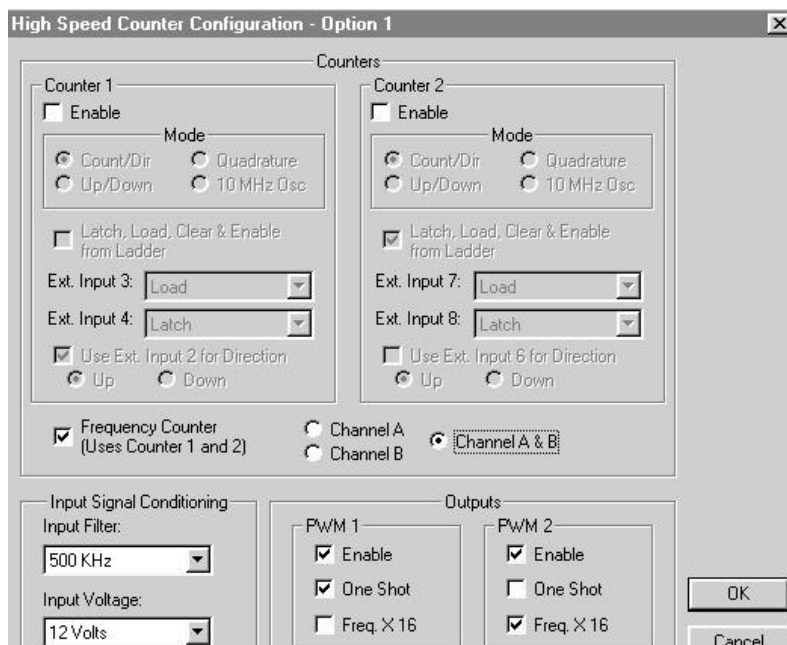

Figure 3.5 – Frequency Input Counter Selected and Pulse Width Modulators (PWM) Enabled
2. Select the channel(s) needing frequency measurement. The frequency can be measured for Channel A or Channel B by clicking the circle next to the desired channel. If frequency measurement is desired for both Channel A and B, click the circle that is labeled **Channel A & B**. In this case, the frequency is measured for both channels alternately. A single counter is used for frequency measurement, and the inputs are multiplexed to provide two channels of measurement. This has the effect of alternately sampling the outputs.(See Figure 3.5.)
1. The **Input Signal Conditioning** block allows the user to set the input voltage threshold and the input frequency response for noise filtering. It is located on the lower left side of the configuration screen. (See Figure 3.5.)
If desired, configure the HSC600/601 for the PWM/pulse output function. (If the PWM/pulse output function is not desired, the outputs are directly accessible in the OCS/RCS registers.) The HSC600/601 can be independently configured as one or two PWM/pulse Output Counters. (See Figure 3.5.)